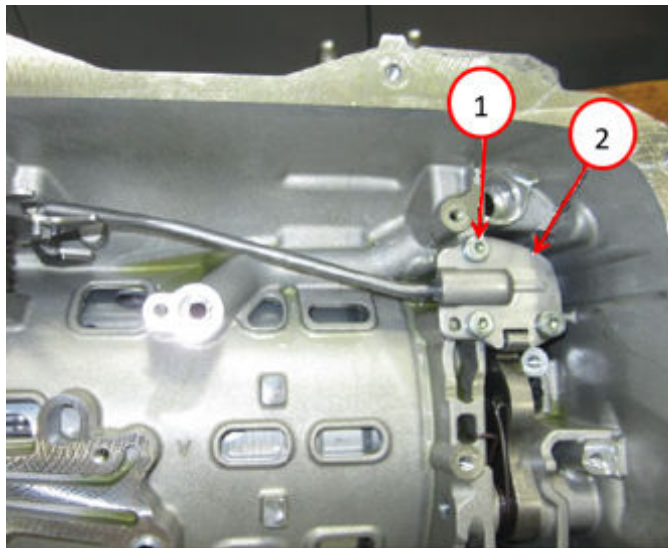

Fig. 18
25. Remove the park pawl lock rod guide plate bolts and remove the plate Fig. 18.